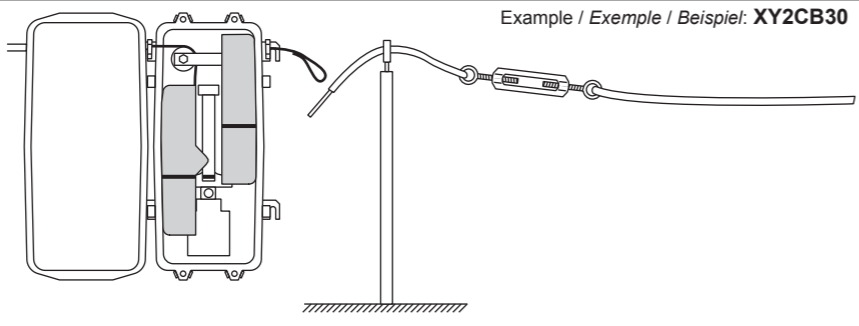

Fig. 2
- Pull up manually the counterweight(s), hook it in the upper position. Repeat this operation with the other counterweight on XY2-CB3●/304 (Fig. 2).